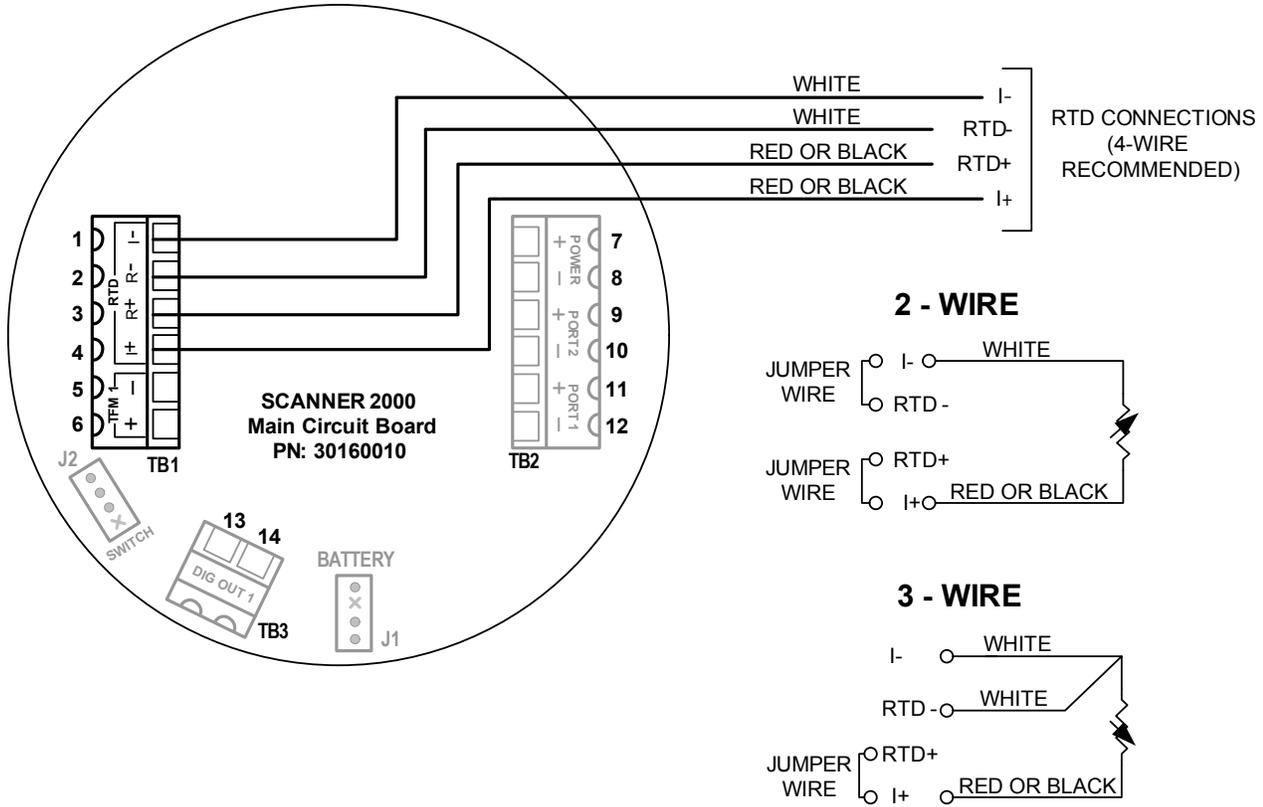

Figure 3.5 - Process temperature input wiring
7. Connect the process temperature input wiring to terminal block TB2, if appropriate. See Figure 3.5, page 64.
The RTDs described in Appendix A of this manual are recommended for measuring temperature for use in temperature-compensated gas and liquid calculations, though a 2- or 3-wire RTD may prove functional. Wiring is essentially the same for all three models, though wire color may vary as indicated. Wire as shown in Figure 3.5.